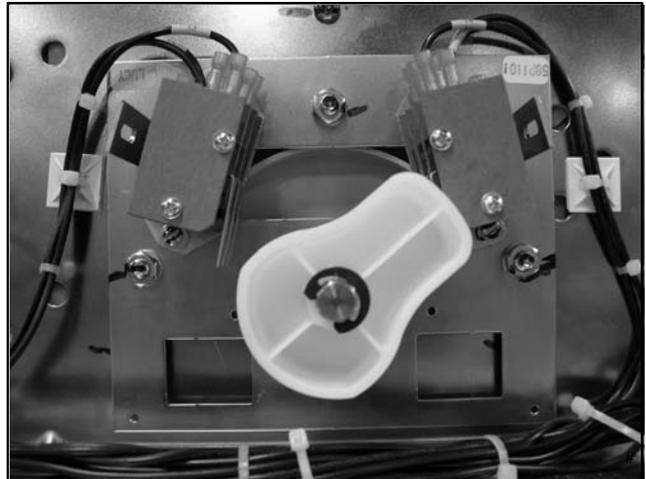

Figure 5-3 Microswitches
5. Note the location of the fast-on connectors to the microswitch terminals. See Figure 5-3.